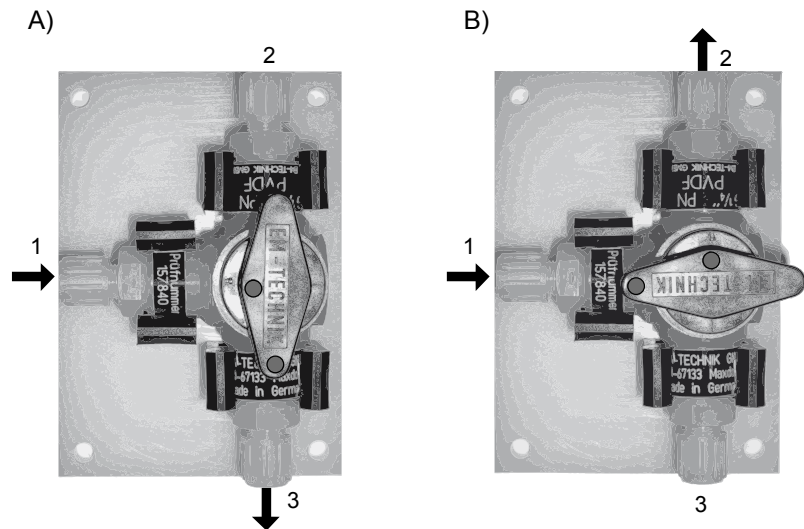

Fig. 16: 3-way valve: A) "Bleed" position; B) "Operation" position
5. ➤ Set the 3-way valve to "Bleed", see Fig. 16.